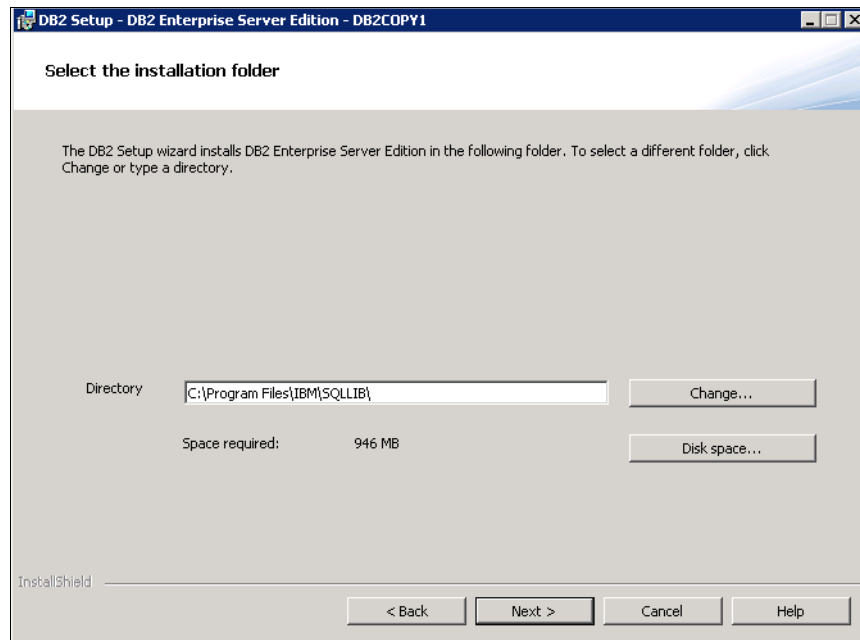

Figure 12-8 Windows installation folder
7. Figure 12-8 shows the default values for the drive and directory to be used as the installation folder. You can change these values or accept the defaults, and then click **Next** to continue. In our installation, we accept to install on the C:\ drive.